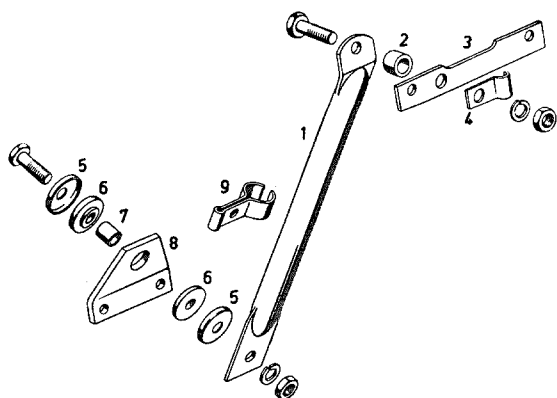

Fig. 01-4/10
21. Check the gaskets of the air suction tube and, if necessary, replace them. Place the air suction tube (1) on the carburetors and the upper part of the filter (3) together with air hose (2) on the air filter and close the snap catches (5) (see Fig. 01-4/7).
Screw on the air suction tube. Then attach the rubber hose (4) to the vent tube of the cylinder head cover (see Fig. 01-4/7). Attach the return spring (3) for the accelerator linkage (see Fig. 01-4/5).
22. Screw the strut supporting the carburetors to the air suction tube (Fig. 01-4/10).